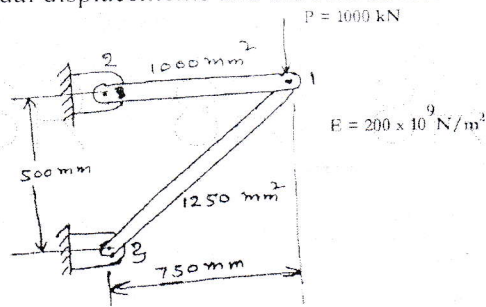

Figure 1
4. For the pin-jointed truss structure as shown in figure 1 below, determine global stiffness matrix, nodal displacements and element stresses. [10]